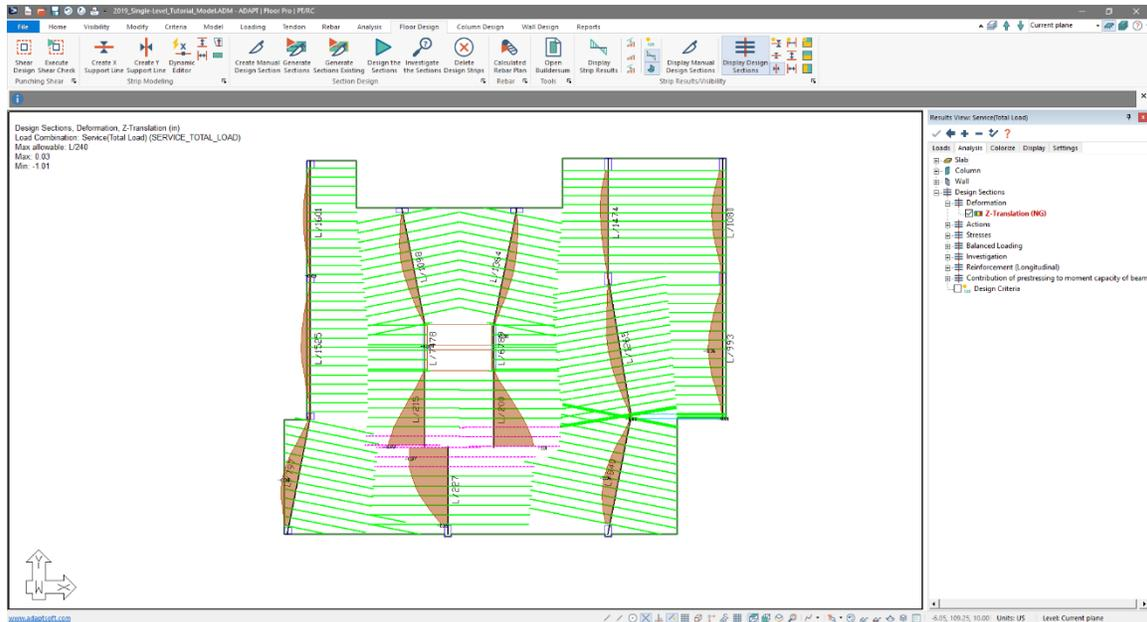

Figure 8-49
- The user should now see the deflection to span ratios along the Y-direction support lines as shown in **FIGURE 8-49**.